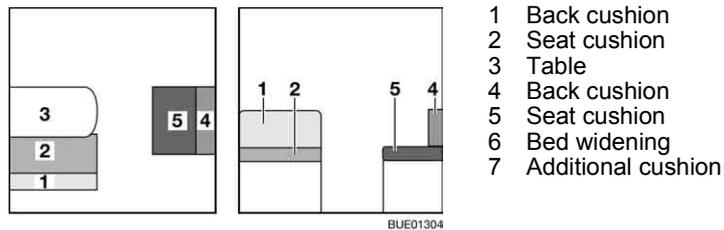

Fig. 125 Prior to conversion
- Convert the table (Fig. 125,3) to a bed foundation (see section 6.11).
- Remove the back cushion (Fig. 125,1) and place them on the table.